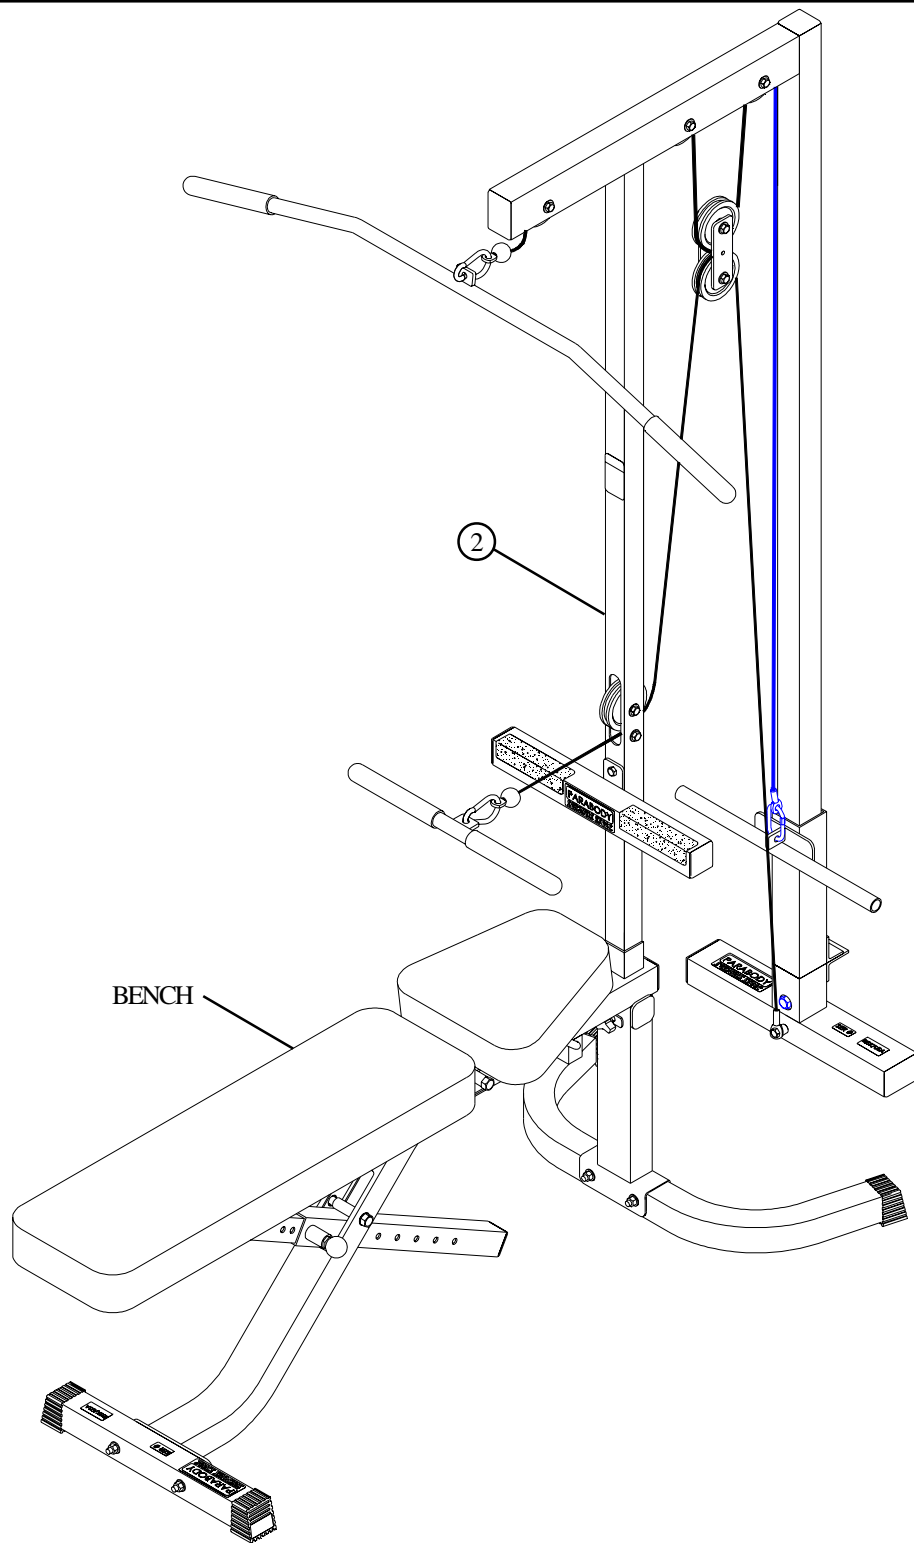

FIGURE 13
- Insert the UPRIGHT (2) of the 848101 into the bench as shown in FIGURE 13.